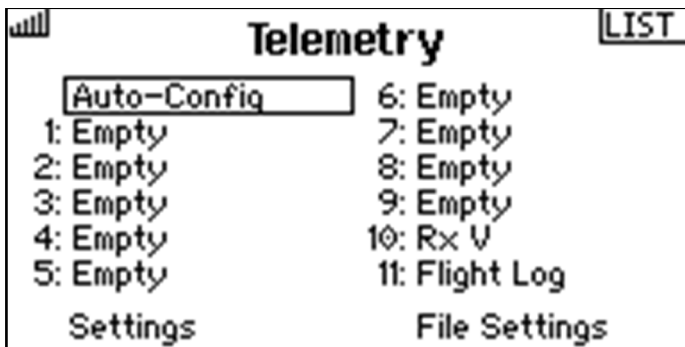

Figure 7: "Auto-Configuration" Function in the Telemetry menu
- Select Telemetry >> Settings >> Auto-Config in the Function List (Fig. 7)